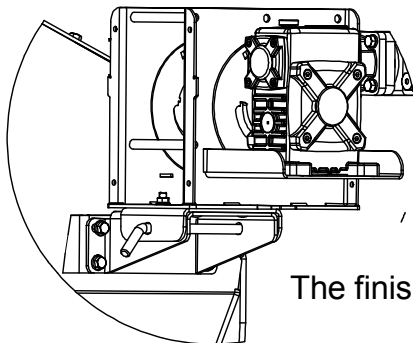

Figure 6
4. Secure Top Mount bracket and Bottom Mount Bracket by placing the Bent Pin (1300010191-00) through the aligned holes as shown in Figure 6
The finished assembly should resemble Figure 6